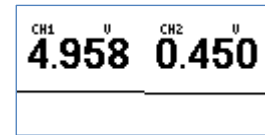

Figure 52: Meter mode
- 3) You should see similar voltages as shown on figure 52.